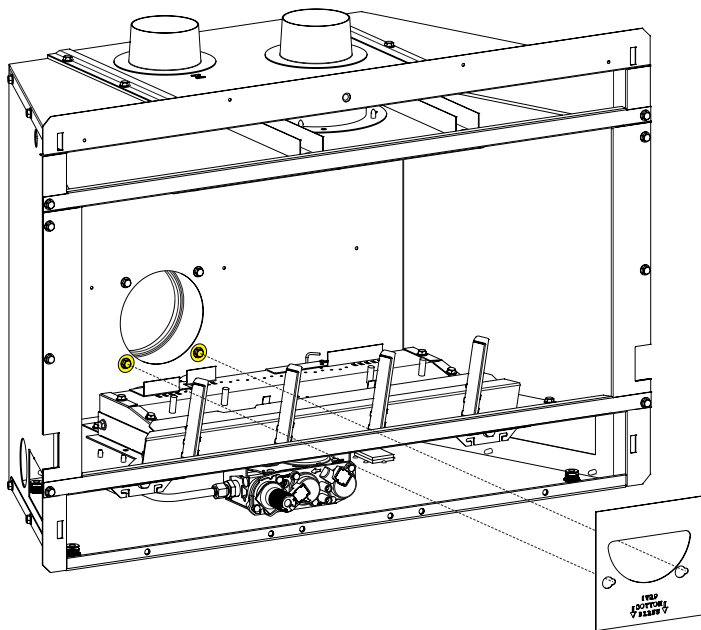

Figure 12
4. Loosen the two bottom screws that secure the inlet air duct collar at the rear of the firebox. **See Figure 12.**
5. Place the inlet air restrictor plate over the air intake opening. Align the plate with the loosened screws, shift the plate on the keyhole slots, then retighten the two screws. **See Figure 12** for locating the inlet air duct opening.